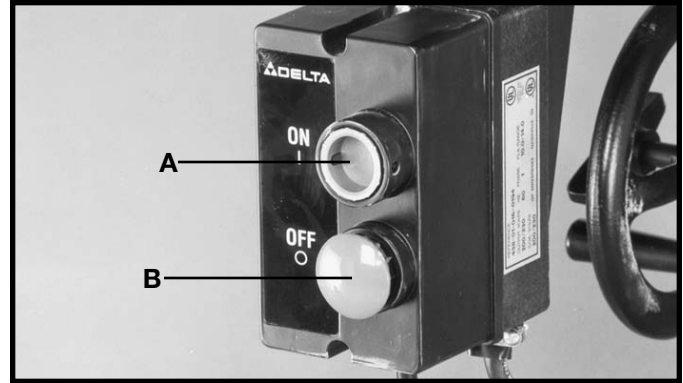

Fig. 39
To start the machine, push “ON” button (A) Fig. 39. To stop the machine, push “OFF” button (B).